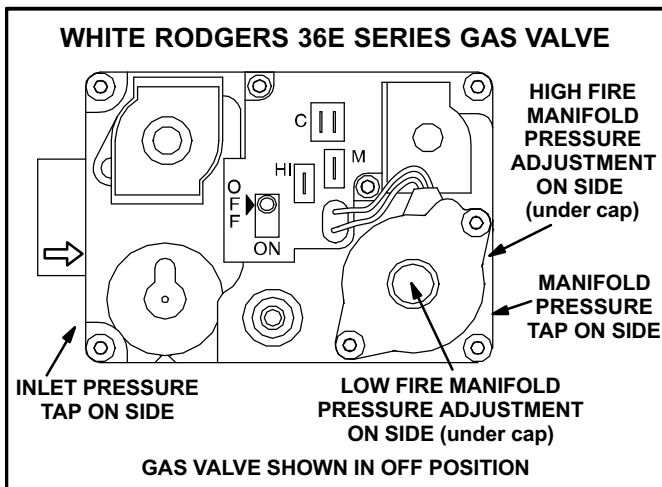

FIGURE 6
- 6 - *White Rodgers 36E Gas Valve* - Switch gas valve lever to **OFF**. See figure 6.
- 8 - *White Rodgers 36E Gas Valve* - Switch gas valve lever to **ON**. See figure 6.